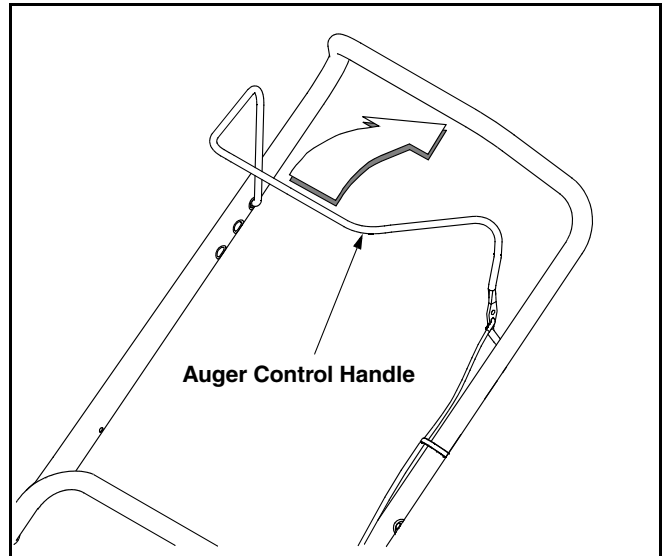

Figure 3
- Engage the auger by squeezing the control handle against the upper handle. See Figure 3.